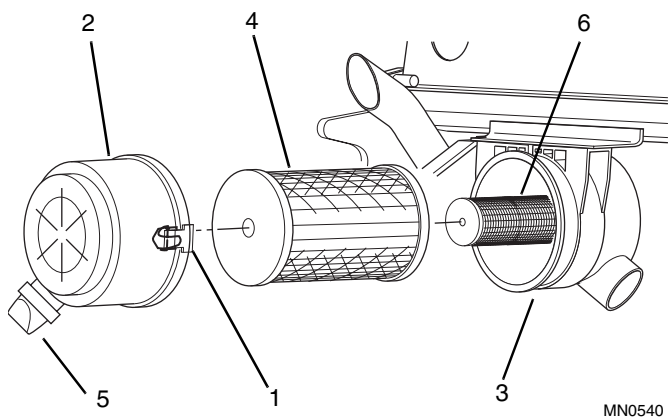

Figure 10-21 Air Cleaner Elements
1. Open the three retaining clips (Fig. 10-21, 1) and remove cover (2) from air cleaner canister (3).
2. The outer primary element (Fig. 10-21, 4) fits tightly over the outlet tube, creating a critical seal on the inside diameter of the element endcap. There will be some initial resistance, but gently release the seal on the primary element by moving the end of the element up and down and side to side or twist to break the seal.
4. Thoroughly clean the interior of the air filter canister (Fig. 10-21, 3), canister cover (2) and vacuator valve (5).
6. If replacing the inner safety element (Fig. 10-21, 6) at this time, follow the same removal procedure as when removing the primary element and carefully slide safety element out. **ALWAYS** discard this element and replace with a new element.
10. Position canister cover (Fig. 10-21, 2) in place and secure the retaining clips (1).